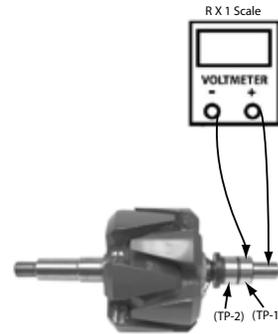

Fig 1
Step 1: Connect multimeter test leads per Fig 1. Move test lead to (TP-2). Record readings at both TP locations.